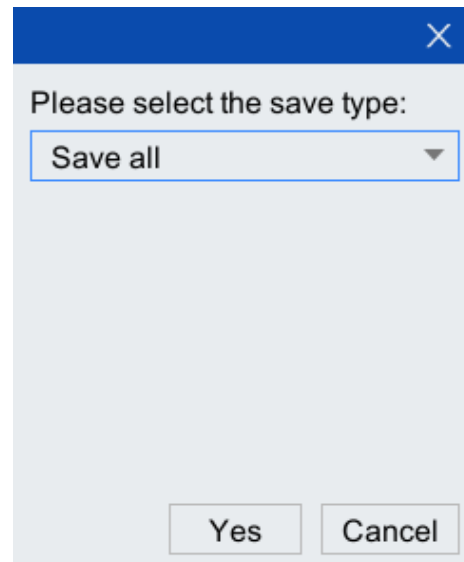

Figure 4-5 Save Type dialog box
Step5. After completing the parameter configuration, click <Save> and a dialog box as shown in Figure 4-5 will pop up. Select [Save All] in [Please Select Save Type] and click <Yes>.